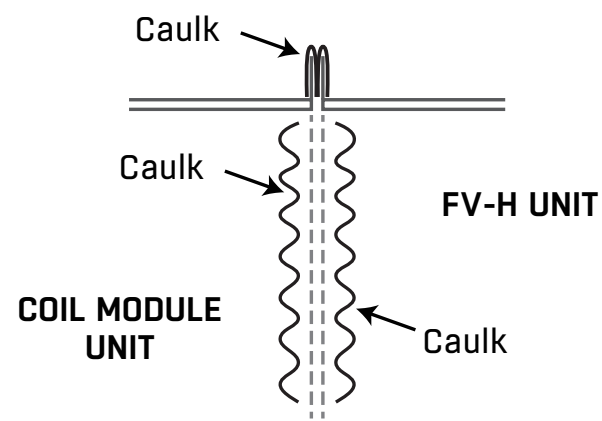

FIGURE 8.
3. Caulk as necessary to make a moisture-tight seal at the seams. There are two strips of sheet metal (butt straps) provided to join the vertical side panels. These should be centered over the joint, caulked and attached, using provided TEK screws, to both the FV and the coil module. (See **FIGURE 8**)